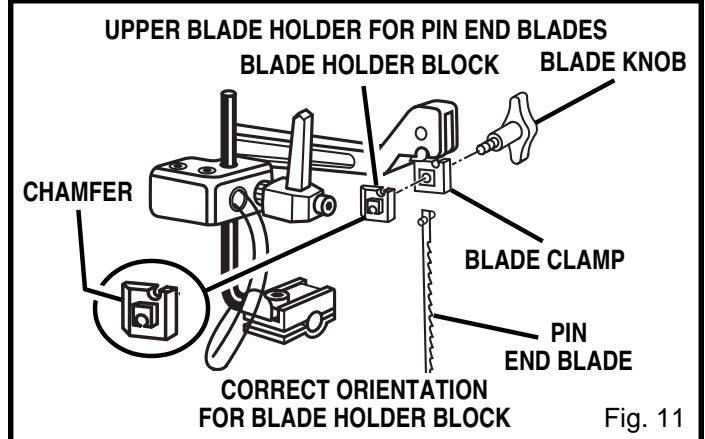

Fig. 11
- Pull up on the blade and push down on the saw arm to engage the upper pin in the "V" notch of the upper blade holder. See Figure 11.